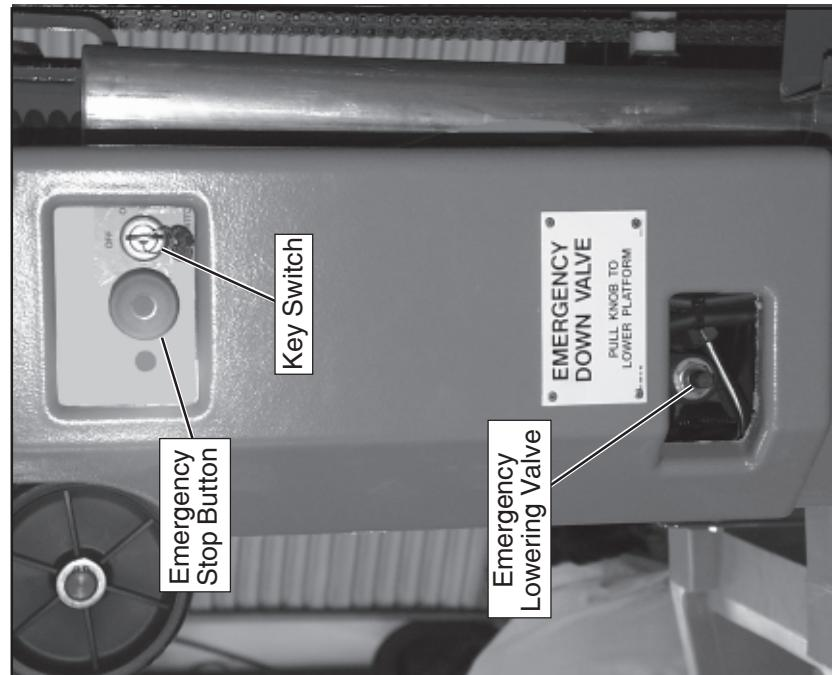

Figure 5: Base Controls
- Ask a person on the ground to open the Emergency Lowering Valve to lower the platform. This valve is located through a cutout in the power unit cover on the left side of the mast (Figure 5).
2. Turn Key to **ON**, Key Switch is located on the left side of the mast (Figure 5).